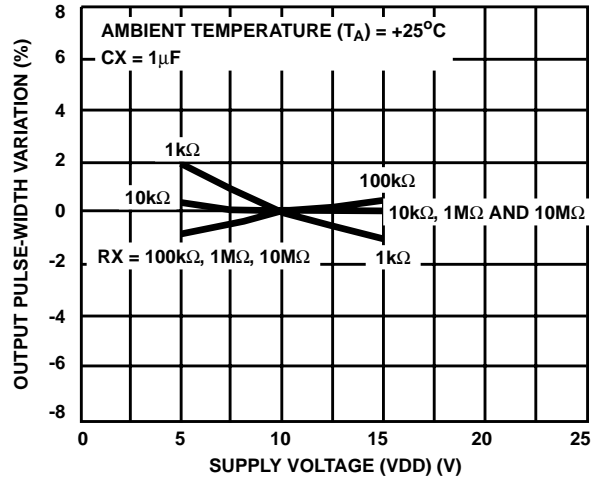

FIGURE 19. TYPICAL OUTPUT PULSE WIDTH VARIATIONS vs SUPPLY VOLTAGE
2. In addition to variations from unit to unit, the monostable pulse width varies with VDD and temperature. These variations are presented in graphical form in Figures 19 to 26 with 10V as reference for voltage variation curves and +25°C as reference for temperature variation curves.